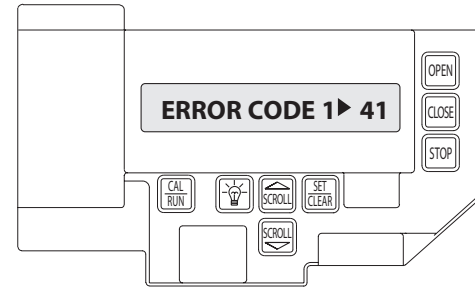

Figure 1
- 2) Press SCROLL  until display reads "CYCLES>1,2,3 etc. where the number is the number of open/close cycles the operator has performed. **Figure 1**.
The error code memory stores the last 10 error codes in sequence. Once 10 codes are stored, the oldest code is erased to make room for the newest code. These codes are displayed in calibration mode. The display will flash the number of the error code and the 2-digit error code followed by a description of the error code. **Fig. 1 & 2.**